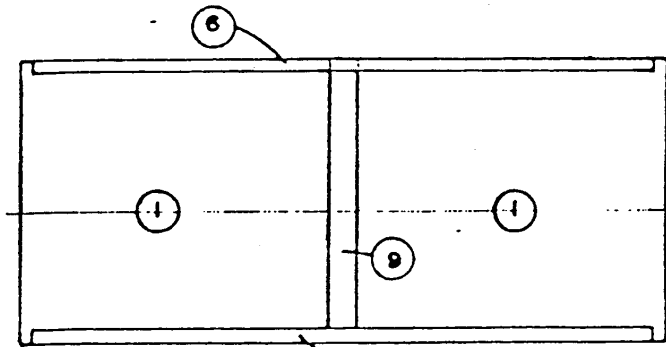

FIG. 1
1. Lay out plywood sheets No. 1 (as shown on Fig. 1). Nail the 2 x 2's No. 6 and the 2 x 4 No. 9 to the plywood sheets No. 1.